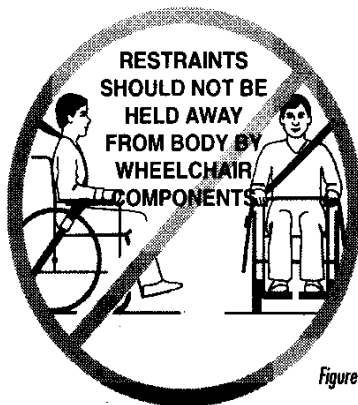

Figure 4B
NOTE: Never situate the pelvic belt over the abdominal area or armrest as shown in Figure 4B.
- Occupant restraints should not be held away from the body by wheelchair components or parts such as the wheelchair armrests or wheels (see Figure 4B).